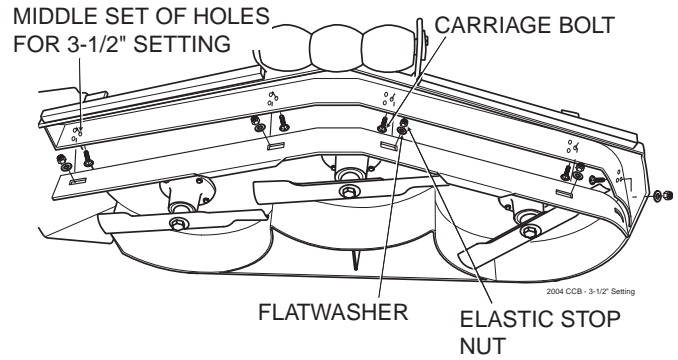

Figure 6-10. 3-1/2" Custom Cut Baffle Position
- B. 3-1/2" Position (factory setting) - baffle is installed using the middle set of holes on the front baffle welded inside the cutter deck. (See Figure 6.10). For general purpose cutting, place the Custom Cut Baffle in the 3-1/2" position. This gives the best mix of cutting performance in all types of grass.
4. Reinstall the mounting hardware as shown. (See Figures 6.10 though 6.11). Torque hardware to 39ft.lbs.